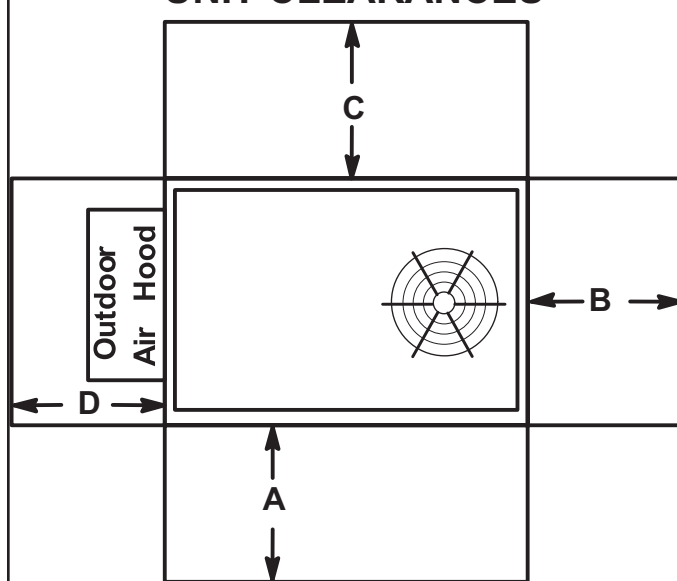

FIGURE 1
See FIGURE 1 for unit clearances.
The LDT unit is ETL/CSA certified for outdoor installations only at the clearances to combustibles listed on unit nameplate and in FIGURE 1.
The LHT unit is ETL/CSA certified as a heat pump with cooling and with or without auxiliary electric heat for outdoor installations only at the clearances to combustibles as listed on the unit nameplate and in FIGURE 1.
- 2 - Specified installation clearances must be maintained when installing units. Refer to FIGURE 1.